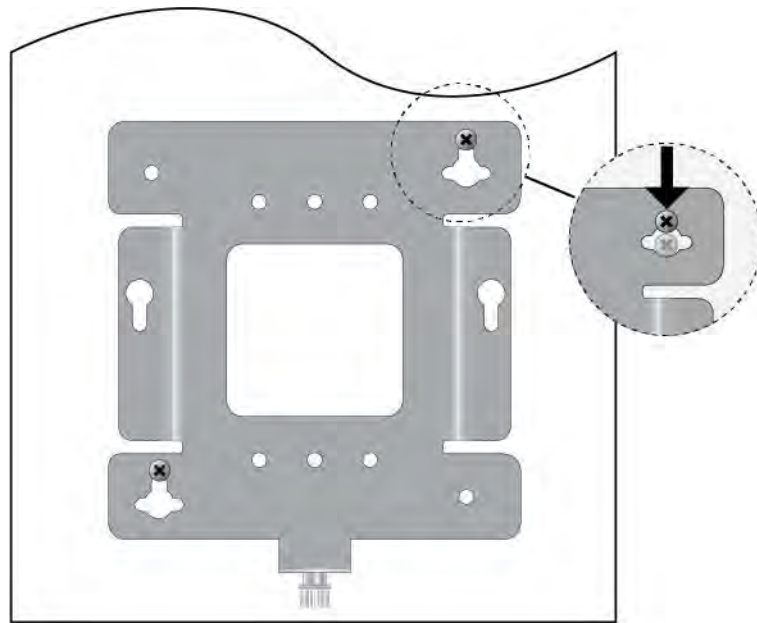

Figure 15. Installing the Mount Bracket On the Screws
6. Insert the openings of the bracket key-hole slots under the two screw heads and slide the bracket into the narrow end of the key-hole slot openings. See Figure 15.